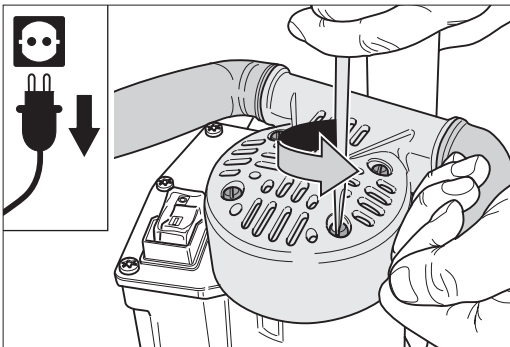

Fig. 40 Undo the four fixing screws and ...
- 3 Loosen the four fixing screws of the handle and remove it from the motor housing. Ensure that none of the parts fall into the motor (Fig. 40 + 41).
- 2 Undo the four fixing screws of the handle and remove it from the motor housing, ensuring that no small parts fall into the motor (Fig. 40 + 41).